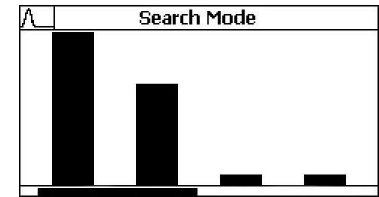

Fig. 25 Reflector search
To start the search mode, press and hold down the search button (compare Fig. 9 MIT-SCAN-T3 design, (7), p. 14). The signals of the four sensors are pictured in display as four separate bars (s. Fig. 25 on next page).